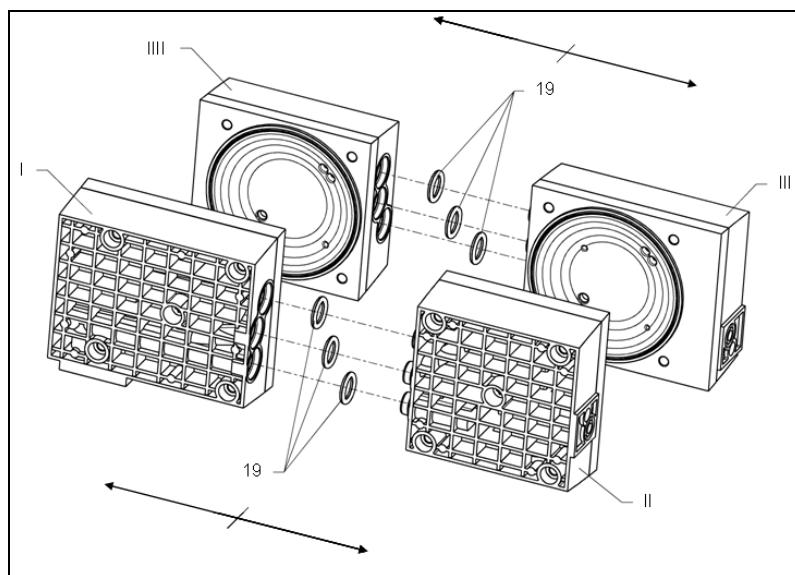

Fig. 15: Removing the O-rings
12. Pull apart heads 1 (Fig. 15/I) and 2 (**II**) and remove O-rings (**19**).
5. Place three O-rings (Fig. 15/19) on the head connection.